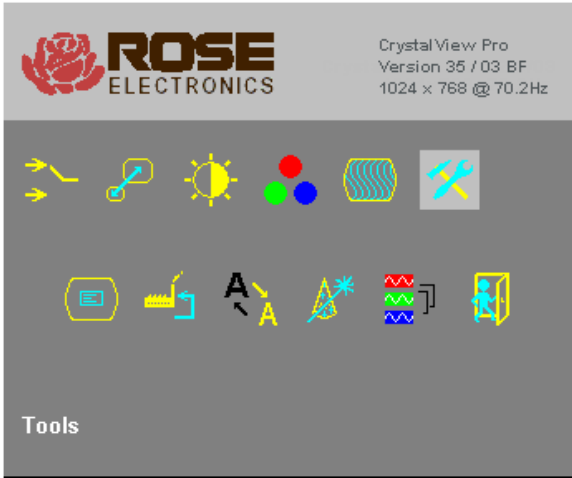

Figure 7. Tools menu
4. Select Automatic detection of the number of pixels per line and the best phase” then press Enter to start the auto-detect procedure (See Figure 7).